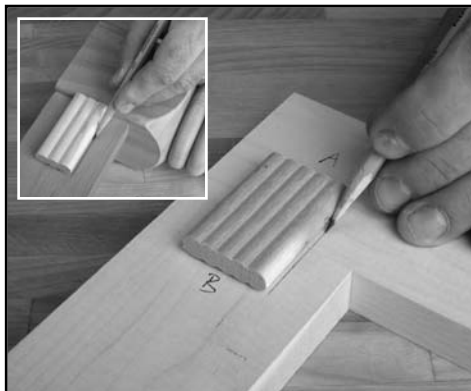

Fig. 1
1. Layout Beadlock tenon on workpiece and mark the inside edge of the tenon stock as shown in Fig. 1. You can use the same procedure for apron/leg assemblies. (Fig. 1 inset) **Note:** For easy reference, the parts in this example are labeled "A" (stile) and "B" (rail).